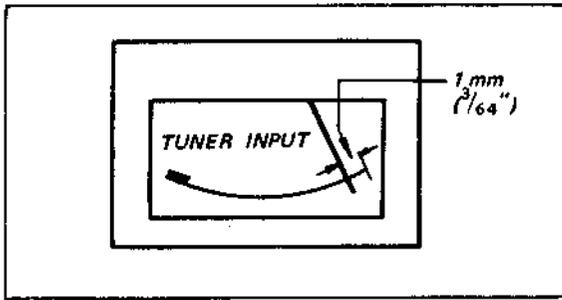

Fig. 3-9. TUNER INPUT meter calibration
3. Precisely tune the receiver to the signal and adjust RT202 (see Fig. 3-11.) to obtain the meter pointer within 1 mm ($\frac{3}{64}$ ") left of its maximum indication as shown in Fig. 3-9.
3. Precisely tune the receiver to the signal and adjust RT401 (see Fig. 3-11.) to obtain the meter pointer within 1 mm ($\frac{3}{64}$ ") left of its maximum indication as shown in Fig. 3-9.